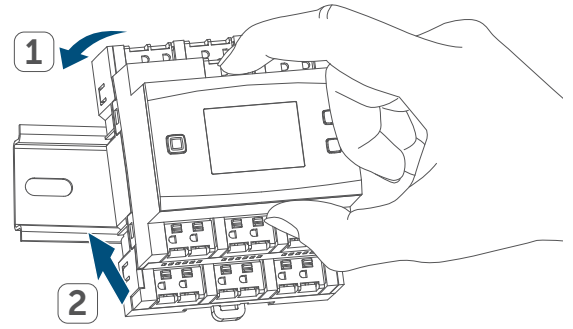

Figure 3
- Place the blind actuator onto the DIN rail (see figure 3). Make sure that you can read the letters on the device and display and that the connecting terminals of channel 1 and 2 are at the top.